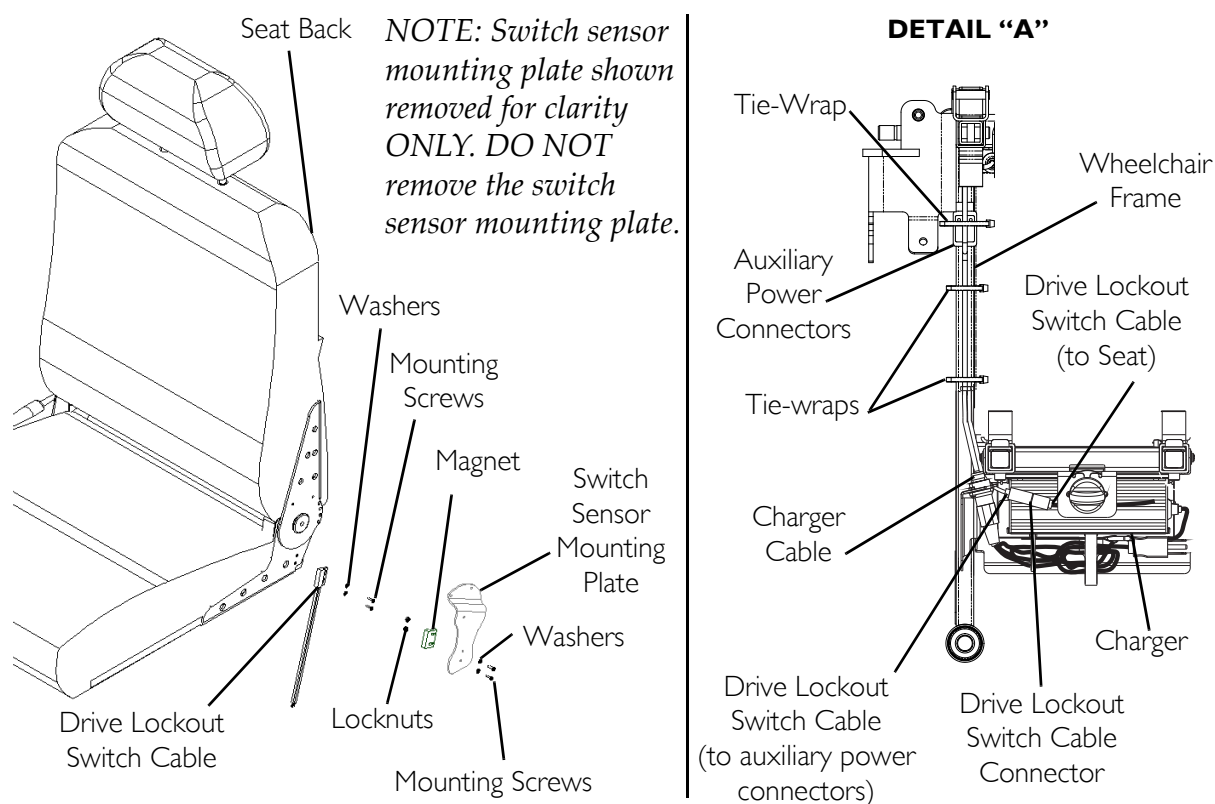

FIGURE 4.24 Removing/Installing Drive Lockout Switch Mounting Hardware and Cable (Full Recline Van Seat Only)
NOTE: For this procedure, refer to FIGURE 4.24 on page 67.
8. Cut the three ties-wrap that secure the auxiliary power connectors and drive lockout cable to the wheelchair frame (Detail “A” of FIGURE 4.24).